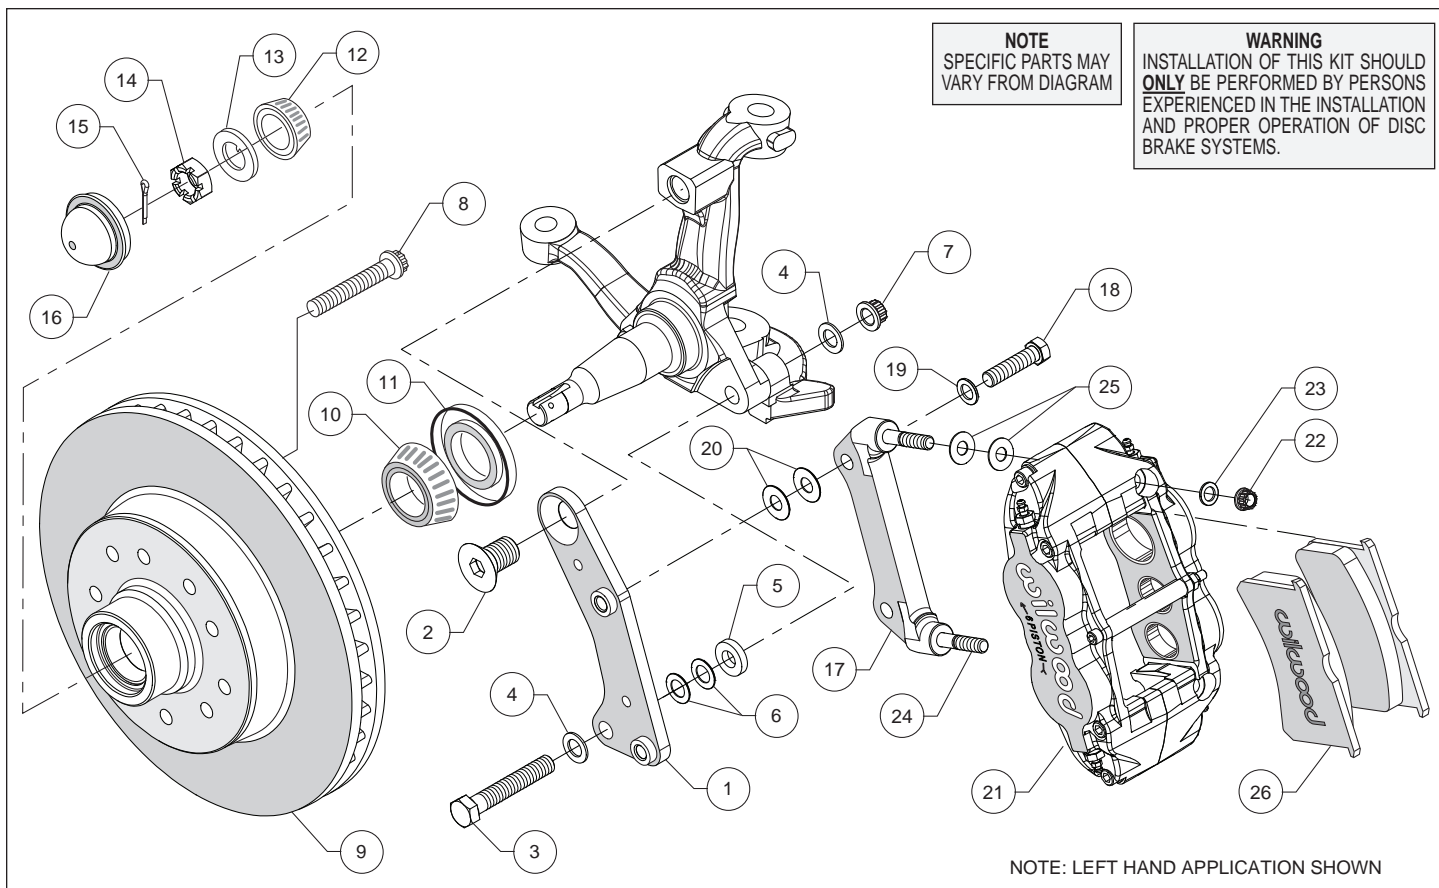
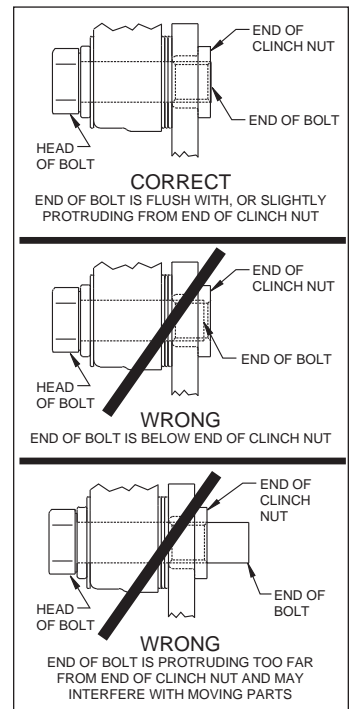

Figure 1. Typical Installation Configuration
Figure 3. Clinch Nut Engagement Diagram
Assembly Instructions (numbers in parenthesis refer to the parts list and Figure 1 on the preceding pages): **CAUTION:** All mounting bolts must fully engage clinch nuts. Be sure to check that all bolts are either flush or protruding through flanged side of clinch nut after shimming, Figure 3.
- The flat bracket (1) should initially be installed with clean, dry threads on the mounting bolts. Orient the flat bracket as shown in Figure 1 and Photo 1, and install using bolts (2 and 3), nuts (7), washers (4) and spacer (5), Figure 1. Initially place two .032" thick shims (6) on the lower bolt between the bracket and spacer, Figure 1. Ensure that the flanged heads of the clinch nuts in the bracket are facing outboard, Photo 1. Temporarily tighten the mounting bolts. **NOTE:** The bracket must fit squarely against the mounting points on the spindle. Inspect for interference from casting irregularities, machining ridges, burrs, etc. Later, after the bracket alignment has been checked, the upper bolt will be secured using red *Loctite*® 271.
- Pack the large inner bearing cone (10) with high temperature disc brake bearing grease (available from your local auto parts store) and install into the backside of the hub/rotor (9), Photo 3.
- Install the grease seal (11) by pressing into the backside of the hub/rotor (9), flush with the end of the hub, Photo 4.
- Temporarily install the hub/rotor (9) onto the spindle using outer bearing (12), spindle washer (13), and spindle nut (14). Check that the caliper mounting bracket (1) is aligned parallel to the rotor, Photo 5. If not, adjust by adding or subtracting shims (6) on the lower bolt between spacer and bracket, Figure 1. Once the bracket alignment is correct, remove the upper bolt (2), apply red *Loctite*® 271 to the threads and torque to 150 ft-lbs. Torque nut (7) to 65 ft-lbs.
- Press the dust cap (16) into the hub/rotor (9), Photo 8. always apply pressure to the flange of the dust cap, not the center.
- NOTE:** Please reference the caution statement at the beginning of the assembly instructions. The caliper mount bracket (17) should initially be installed with clean, dry threads on the mounting bolts. Orient the bracket as shown in Figure 1 and Photo 9 and install using mount bolts (18) and washers (19). Initially place two .030" thick shims (20) on each bolt between the caliper bracket (17) and spindle bracket (1), Figure 1. Temporarily tighten the mounting bolts. Later, after the caliper alignment has been checked, the mount bolts will be secured using red *Loctite*® 271.
• **NOTE:** This kit contains distinct right and left hand calipers that must be mounted in a specific direction, as described below. Lubricate the caliper mounting studs (24) with lightweight oil. Initially place two .035" thick shims (25) on each stud between the caliper and the bracket, as shown in Figure 1 and Photo 10. Mount the caliper (21) onto the bracket (17) using lock nuts (22) and washers (23), Figure 1. Ensure that the caliper is mounted so that the largest pistons are at the rotor exit end of the caliper, in relation to the direction of rotor rotation. Temporarily tighten the lock nuts and view the rotor through the top opening of the caliper. The rotor should be centered in the caliper, Photo 11. If not, adjust by adding or subtracting shims (20) between the caliper bracket and the spindle bracket. Always use the same amount of shims on each of the two mounting bolts. **NOTE:** The end of each bolt must be flush with or slightly protruding from the head of the clinch nut, as shown in Figure 3. If necessary place spare shims between washer (19) and caliper mounting bracket (17) to achieve the proper clinch nut engagement. Once the caliper alignment and clinch nut engagement are correct, remove the bolts one at a time, apply red *Loctite*® 271 to the threads, and torque to 60 ft-lb.